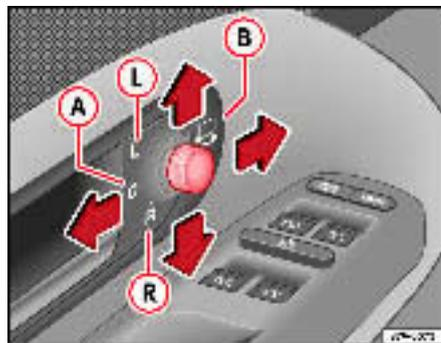

Fig. 82 Detail of driver door: wing mirror controls
1. Turn knob ⇒ fig. 82 to position ① (left exterior mirror).
3. Turn knob to position ② (right exterior mirror).